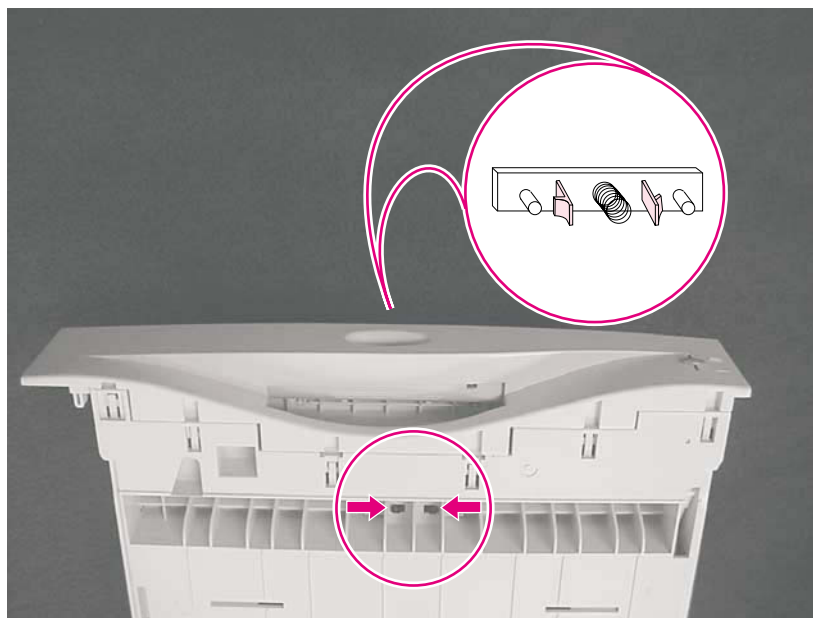

Figure 102.
- 2 While pressing down the paper lift plate (callout 2), reach under the front of the tray and squeeze the black tabs (callout 3 in figure 102) to release the separation pad from the tray.